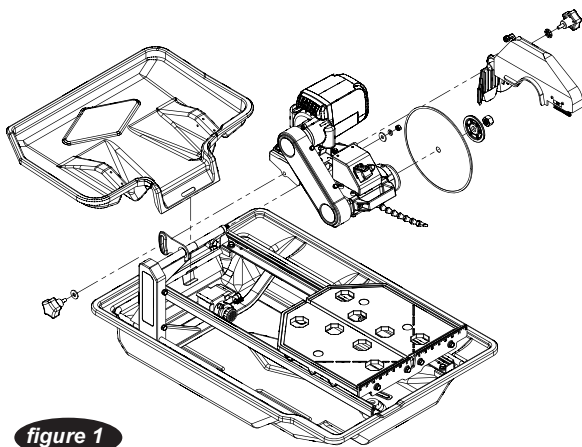
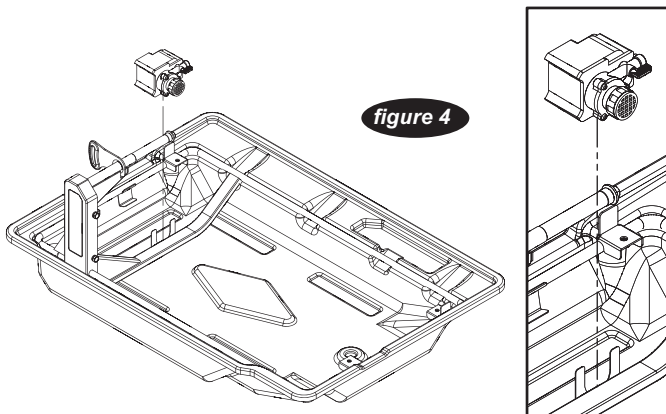

figure 1
figure 4
1. Slide water pump onto U-shaped bracket located at the bottom of the frame. **(see figure 1 or figure 4)**
2. Slide the pump onto the U-shaped bracket located at the bottom of the frame. The pump should be oriented such that the water outlet is horizontal. (see figure 4)